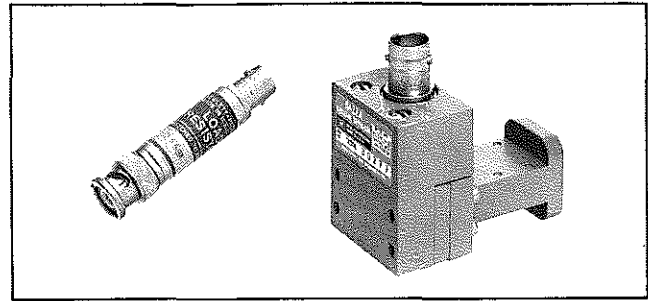

Figure 1. Model 422A Crystal Detector and Load Resistor
1. The Model 422A Crystal Detector (Figure 1) is a broadband device which includes a crystal diode, a waveguide mount designed to match approximately the impedance of the crystal diode, and a resistor (Option 002 only) which loads the crystal for maximum square-law range. Lossy elements in the mount reduce the SWR of the device. Model 422A detectors are available for use in the K (18 to 26.5 GHz) and R (26.5 to 40 GHz) bands, and can be obtained in matched pairs.
2. For optimum square-law response, a separately contained Load Resistor is supplied with Model 422A Option 002 Crystal Detectors (see Figure 1). Each load resistance is factory-matched to a specific Model 422A, and permits conversion from optimum square-law response, with the load, to optimum sensitivity, without the load. Each Load Resistor is identified by a serial number marked on its name-plate which is identical to the serial number of the Model 422A to which it is matched. If you have more than one Load Resistor, always check that you are using the proper Load Resistor for the 422A in use.